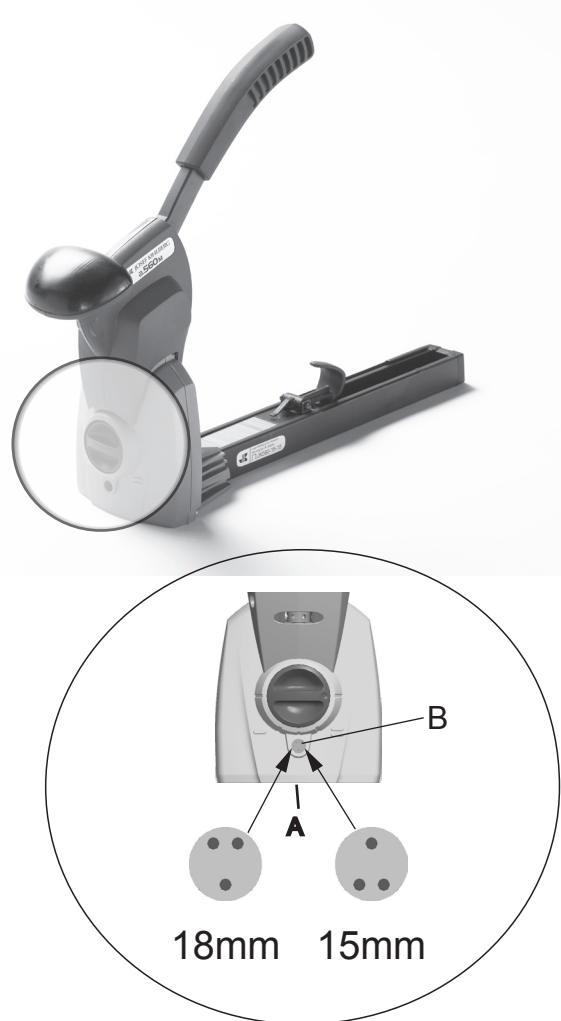

Fig. 3
- With a 2,5 mm allen key, unscrew locking screw (A) two turns.
- With a screw driver, adjust screw (B) to 15 or 18 mm leg length (Fig. 3)